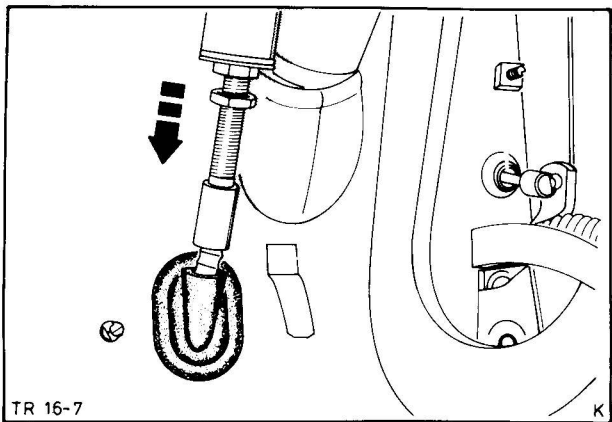

Fig. 141. Slacken clutch cable at pedal
2. Slacken clutch cable at pedal mounting, Fig. 141.